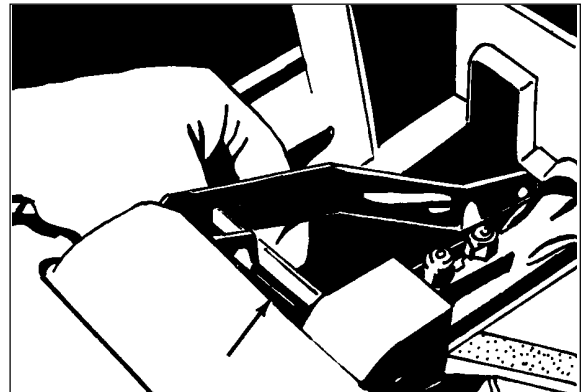

Figure 3
6. From the inside of the machine, slide the pivot pin through the handle tube tongue and the main frame. See figure 3.